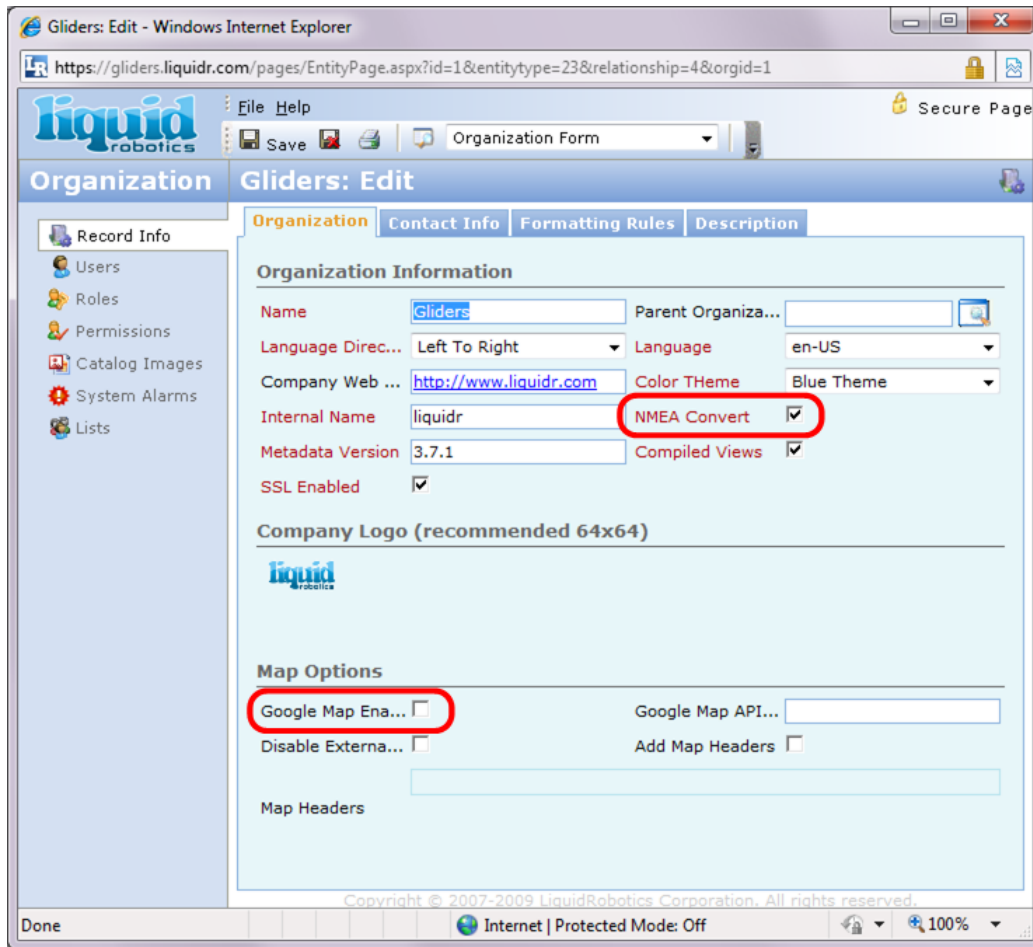

Figure 10-1: Browser Configuration Settings for M2M
- 3) Double-click on "Gliders". This should bring up the dialog box shown in Figure 10-1 below.